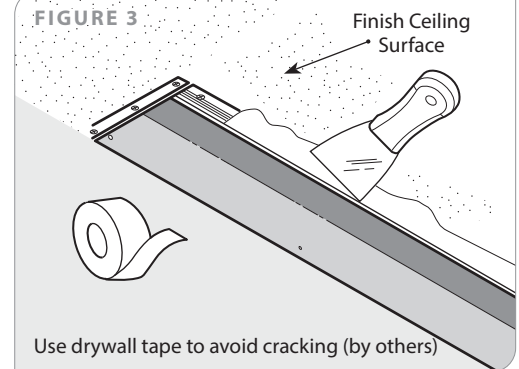

FIGURE 2: INSTALLATION GUIDES
4. Place aperture guides inside fixture to prevent any deformation of housing (Figure 2) during installation. Screw flange onto ceiling. Drive screws straight up, **DO NOT ANGLE**, will distort aperture opening. Install lens to test for proper fit. If lens fits too tight or too loose, unscrew flanges from ceiling, adjust aperture opening accordingly and re-secure flange to ceiling. Test lens again, and repeat until lens snaps in firmly.